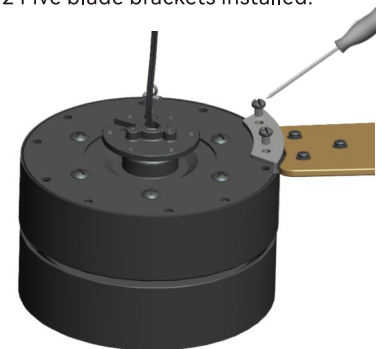

Fig 4.1
- 4.1 Fix the prepared blade bracket to the motor housing with the blade bracket screws as shown in Fig 4.1.